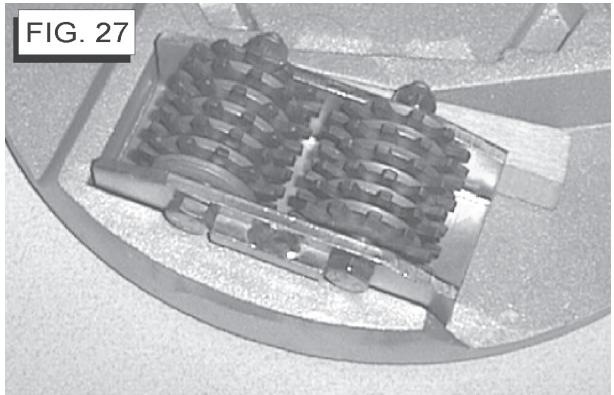

FIG. 27
| F.  | Axle In Operation Position [FIG. 11].   | GG5.  | Scarifier Wheels [FIG. 27].                                      |
- GG5. Disque scarificateur [FIG. 27]